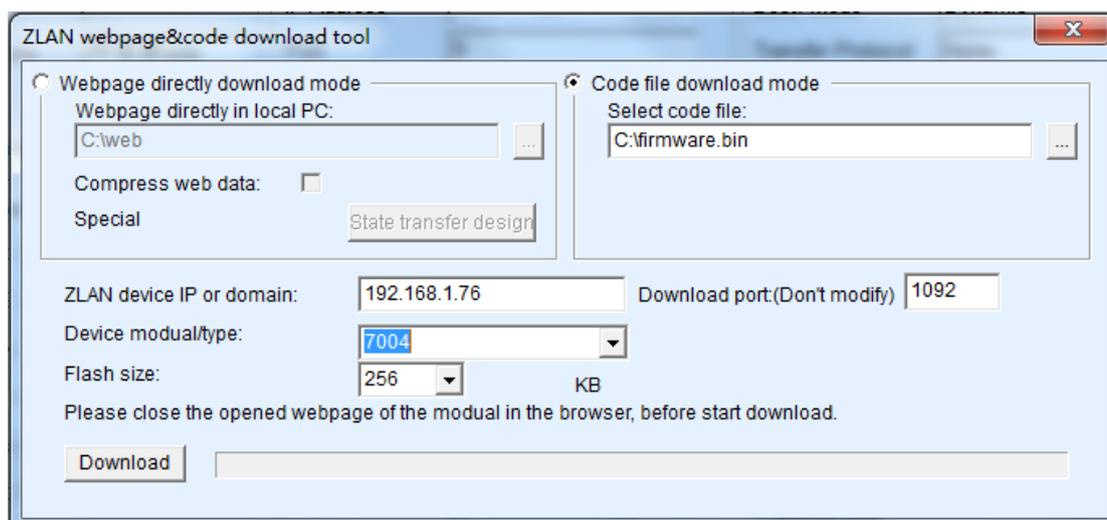

Figure 35 ZLAN7104 Firmware Upgrade Method
- 4) Select "Code file download mode" as shown in figure 35. In the program file, choose the firmware file. The IP address part of the networking product has been automatically filled out and no further writing is required. The module type/model has been selected automatically. Then click download.
- 8) The configuration pages within the module also need to be updated after the firmware upgraded, otherwise the Web configuration will not be available again. The way to download the Web is: shown as FIG. 35, change the "Code file download mode" to "Webpage directory download mode". And choose the root directory of local Webpage as the file directory for the Webpage file needed to download (the directory can be obtained from ZLAN), click on the download, all files in the local Webpage directory will be downloaded to the file system within ZLAN7104.